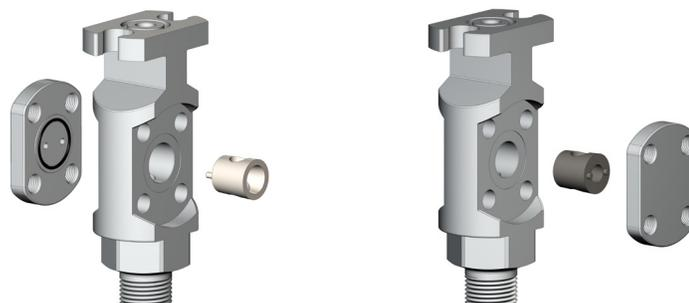

FIGURE 1
7. Install an O-ring on flange plug. (*See Figure 1*)